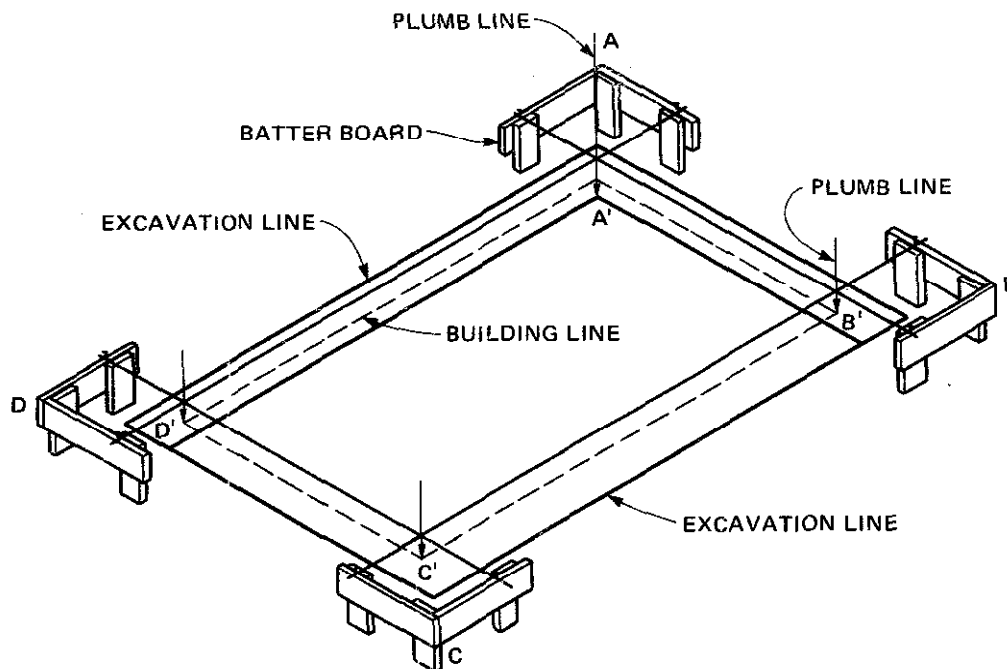

Fig. 5-24 Testing the squareness of a layout with a 6-8-10 triangle.
2. Drive stakes A, B, C, and D, 4 to 10 feet from A', B', C', and D'. See figure 5-24.